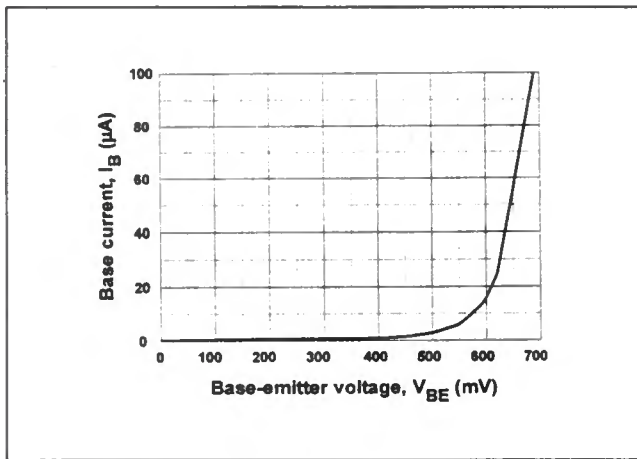

Fig. 4.9 Input characteristic (I_B plotted against V_{BE} with V_{CE} constant).
- the input characteristic (I_B plotted against V_{BE} with V_{CE} constant, Fig. 4.9).
The input characteristic shown in Fig. 4.9 is similar to that of a forward biased diode. This, of course, should not be too surprising since the base-emitter junction acts just like a *p-n* junction diode. As with a conventional silicon diode, the junction does not begin to pass current until a forward voltage of approximately 0.7V is reached. The collector-emitter voltage (V_{CE}) has remarkably little effect on the shape of the characteristic and thus only a single curve is drawn for a fixed value of V_{CE} .